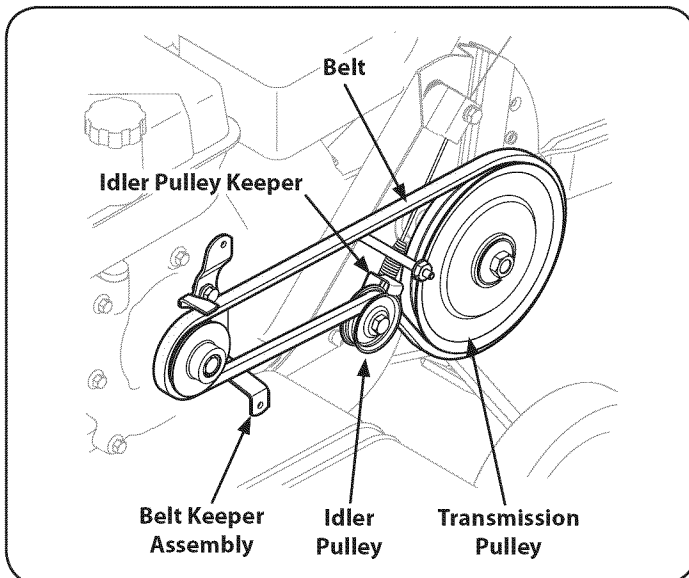

Figure 27
2. Remove the idler pulley bolt and move the belt from under the idler pulley keeper. See Figure 27.
3. Remove the belt keeper assembly located behind the engine pulley by removing the two hex bolts and lock washers. See Figure 27.
4. Remove the old belt from around the transmission pulley and install the new belt. See Figure 27.
NOTE: Upon reassembly, make certain that the idler pulley keeper is as shown in Figure 27. Take note of the notch on the bottom of the keeper and the alignment when reassembling with the replacement belt.